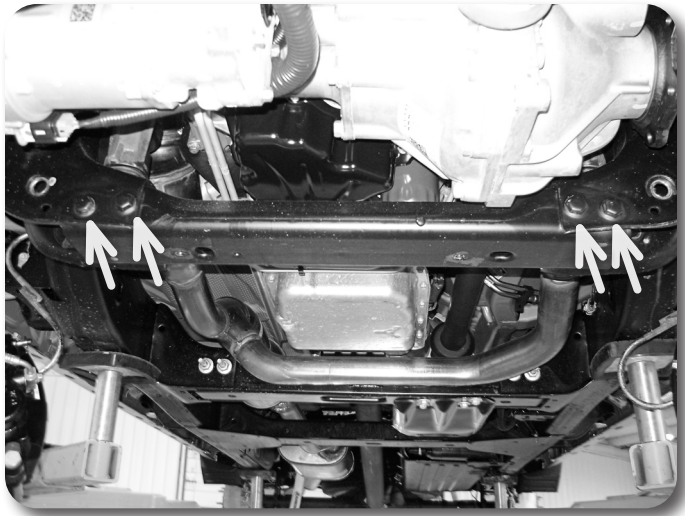

Figure 12
24. Remove the factory rear crossmember from the vehicle by removing the 4 bolts. **Figure 12.** Crossmember and hardware will not be reused.